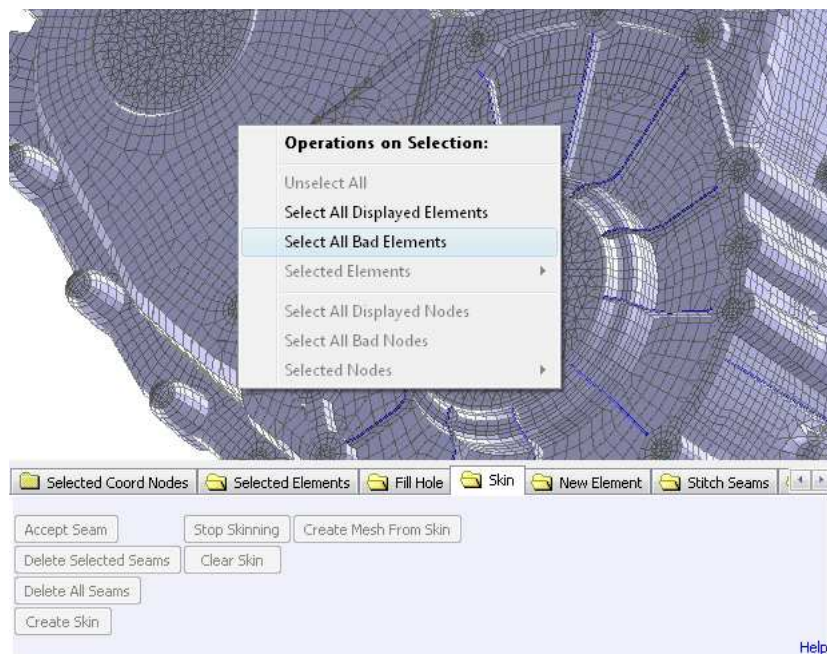

Figure 5.20: Select all Bad Elements.
- Select all Bad Elements in the FE mesh by right-clicking on the GUI while holding down the *shift-key* and choosing **Operations on Selection** → **Select all Bad Elements**. (Figure 5.20)